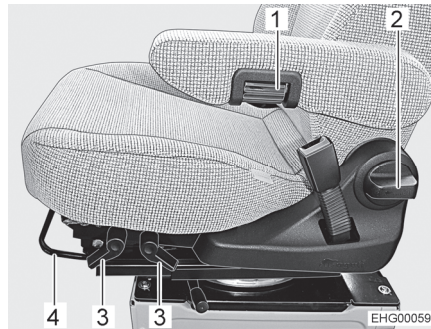

Fig. 18 Seat adjustment
- Pull the bar (Fig. 18,4) upwards.
- Pull the respective lever (Fig. 18,3) upwards.
- Turn the handle (Fig. 18,2).
- Turn the knurled wheel (Fig. 18,1) for fine adjustments. The armrest inclines upwards or downwards, depending on the rotation direction.